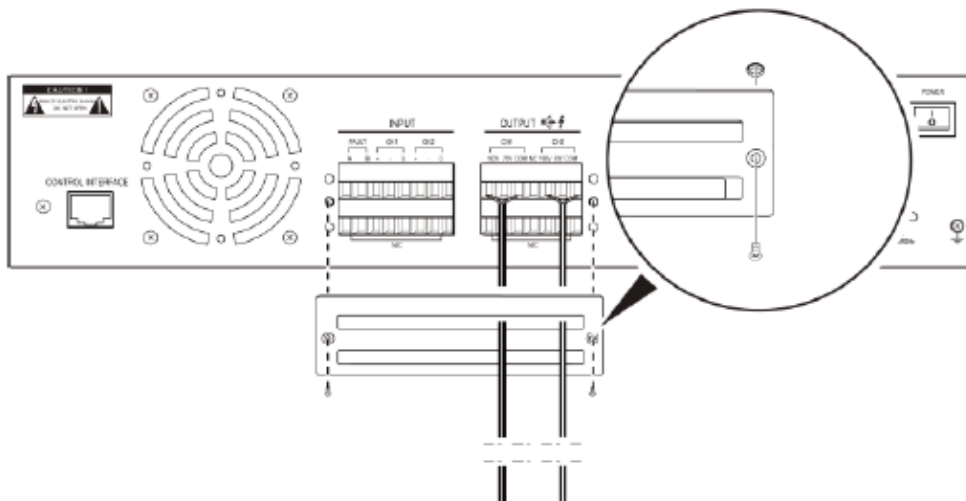

Figure 20 Schematic Diagram of the Protective Audio Input Terminal Cover
- g. Cover the power amplifier terminal with the protective terminal cover and tighten the screws, as shown in Figure 20. This same operation applies to the ZS-2000M terminal and related protective cover.